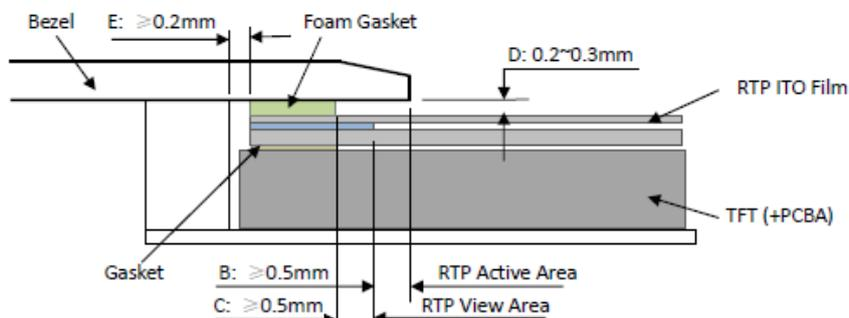

Figure 4
- It should bezel touching the RTP Active Area (A.A.) to prevent abnormal touch.It should left gab $D=0.2\sim 0.3\text{mm}$ in between. (Figure 4)
- Outer bezel design should take care about the area outside the A.A. Those areas contain circuit wires which is having different thickness. Touching those areas could de-form the ITO film. As a result bezel the ITO film be damaged and shorten its lifetime. It is suggested to protect those areas with gasket (between the bezel and RTP).The suggested figures are $B\geq 0.50\text{mm}$; $C\geq 0.50\text{mm}$. (Figure 4)
- The bezel side wall should keep space $E= 0.2 \sim 0.3\text{mm}$ from the RTP. (Figure 4)
- 为避免面框直接压在动作区 (A. A.) 上造成误动作，面框与电阻触摸屏 (RTP) 之间应留有一定的空隙 $D=0.2\sim 0.3\text{mm}$ 之间. (附图4)
- 设计面框时，要注意用面框保护触摸屏四周的非保证操作区域，因为布线区域在此处形成一台阶，在此区域附近操作时ITO Film变形较大，容易导致ITO损坏而降低寿命。为保护RTP和避免误操作，在RTP与面框之间垫缓冲物 (Gasket)，我们建议设计面框应覆盖动作区的边缘，面框边缘到V. A. 区的距离 $B\geq 0.50\text{mm}$ ；垫圈内边缘到V. A. 区的距离 $C\geq 0.50\text{mm}$ 。 (附图4)
- 在设计面框与RTP组装时，应考虑到面框内侧与RTP外侧的间距 $E\geq 0.2\text{mm}$ 。 (附图4)